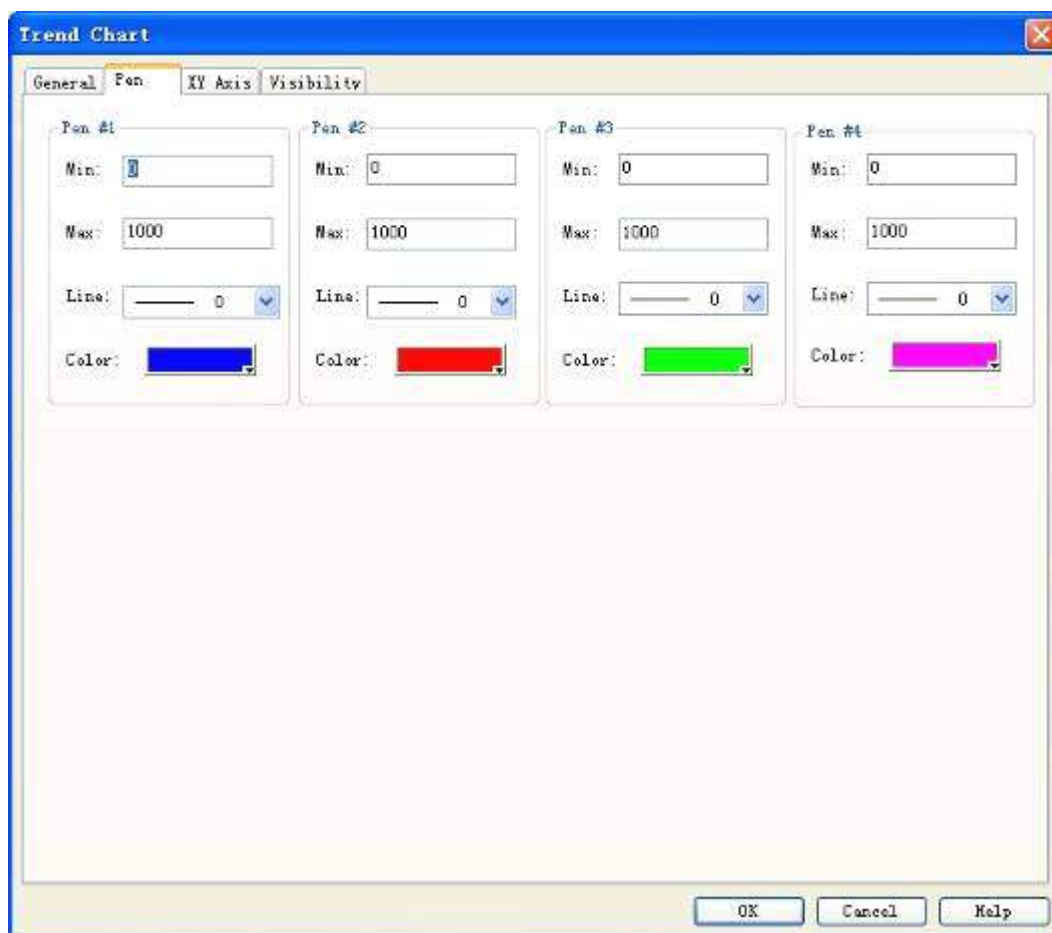

Figure 4-91: Pen tab of Trend Chart
2. Pen tab of Trend Chart. See Figure 4-91.